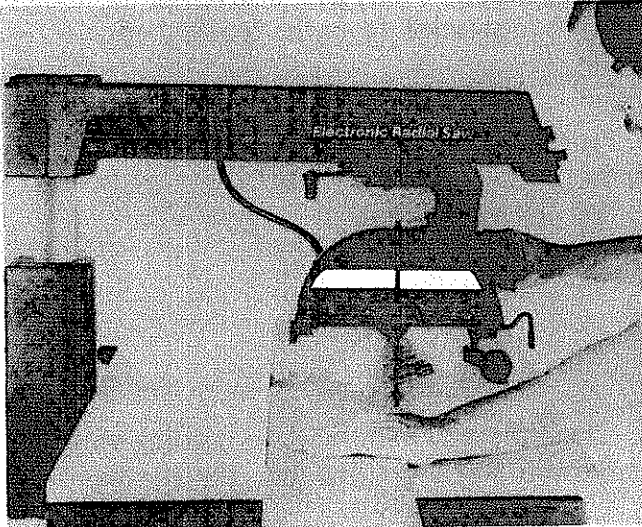

Fig. 92 - Distance Needed to Complete Crosscut
13. Pull blade through fence and workpiece just enough to complete the cut. (Fig. 92)